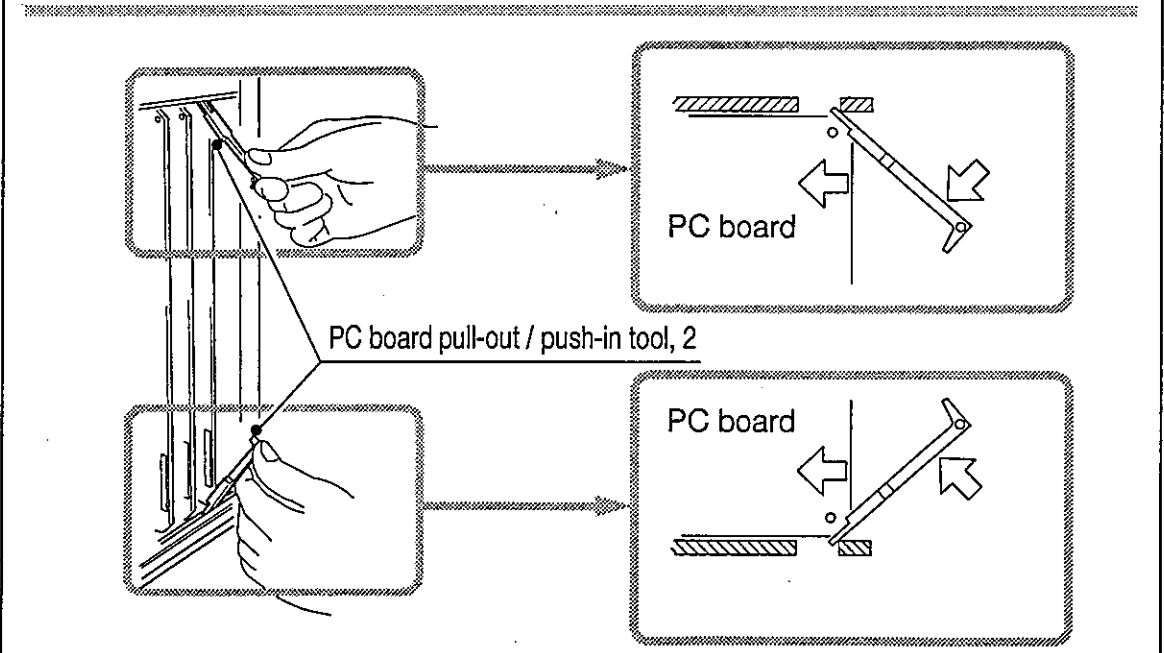

Fig. 46
- 14-2. Mounting PC Board . . . . Let claws on 2 PC board pull-out / push-in tools be caught in square holes prior to PC board slot. Then, push in PC board securely as illustrated. (Fig. 46)